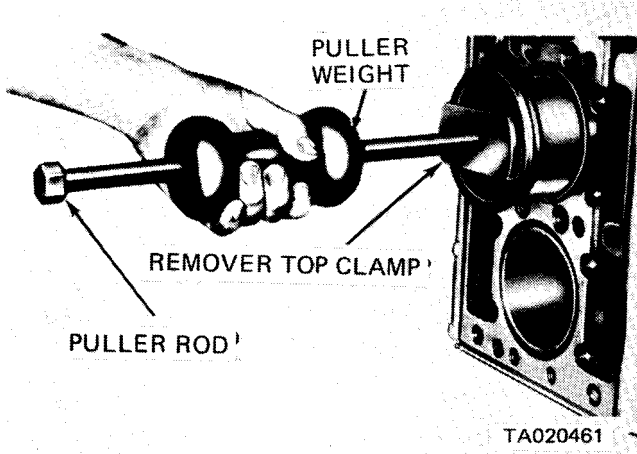

Figure 3-141. Cylinder liner remover.
- (1) Remove engine (para 2-5).
- (2) Remove cylinder head (para 3-25).
- (3) Remove oil pan (para 3-26).
- (4) Remove pistons and connecting rods (para 3-34).
- (5) Remove cylinder liner (fig. 3-141).
(6) If the engine has been in service, it may be necessary to exert considerable effort to remove the liner with liner remover tool as follows:
(b) Slide the upper puller clamp down against the top edge of the liner (fig. 3-141).